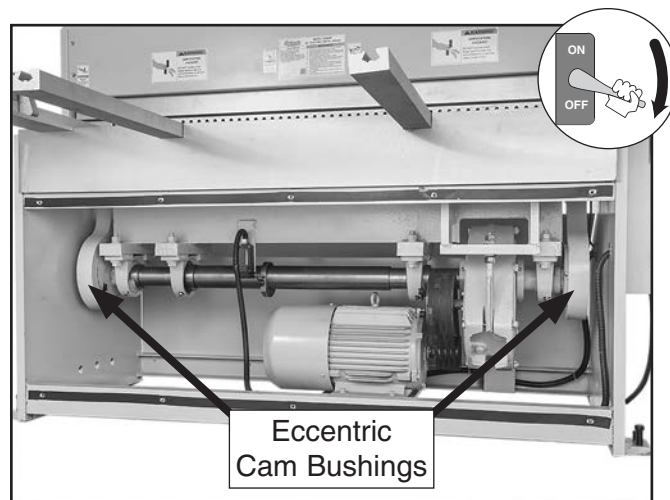

Figure 45. Eccentric cam bushing grease fittings (front cover removed).
3. Clean each grease fitting, then pump in new grease until it just seeps from cam bushing housing and grease fitting (see **Figure 45**).